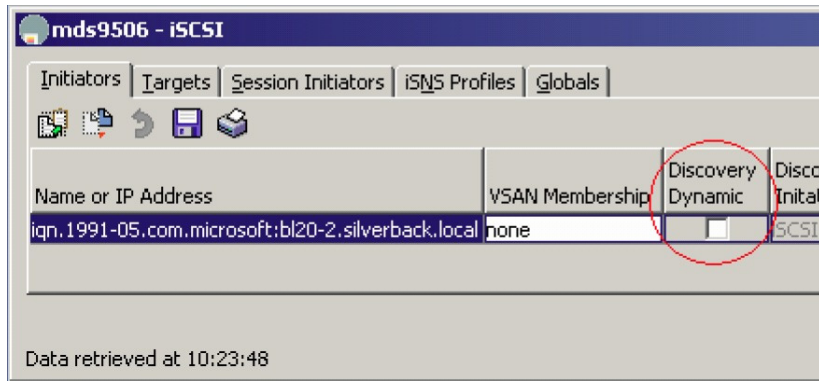

Figure 29 Discovery Dynamic check box
2. Clear the **Discovery Dynamic** check box (Figure 29).